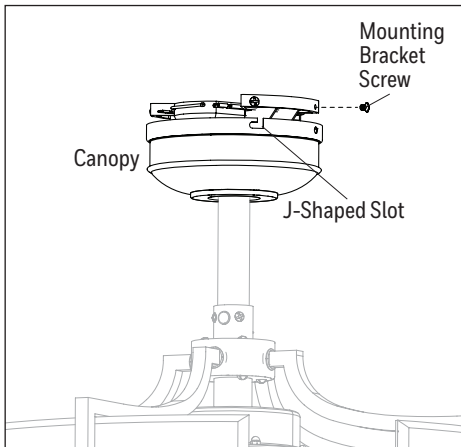

Figure 4.1
1. Raise the canopy, ensure the two mounting bracket screws are aligned with the J-shaped slots in the canopy. Then turn the canopy in a clockwise direction until the mounting bracket screws are completely engaged in the J-shaped slots. Install the two previously removed mounting bracket screws in the round holes. Securely tighten all mounting bracket screws (Figure 4.1).